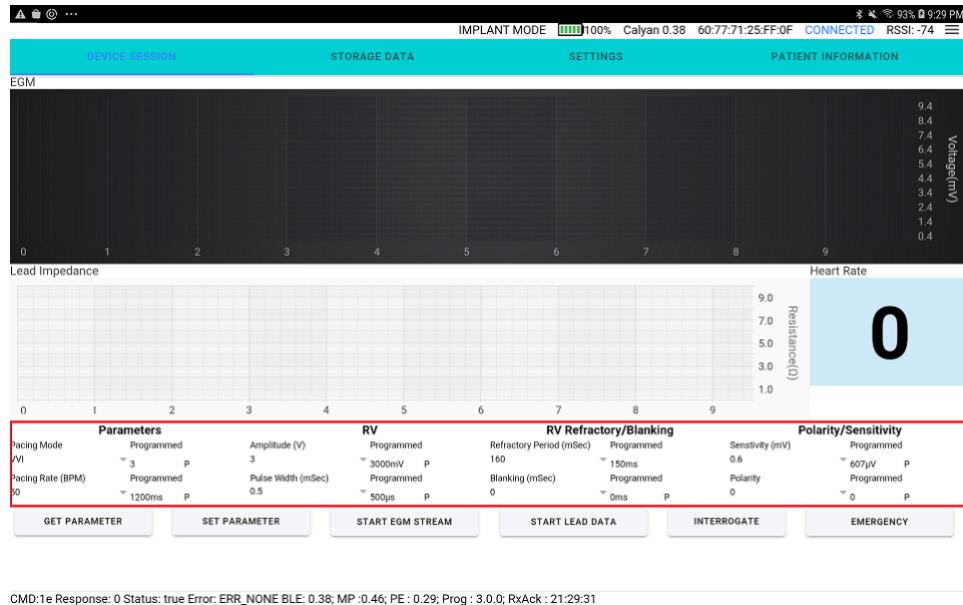

Figure 7: Device Session
1. On Successful interrogation the Device settings will be displayed on the programmers “DEVICE SESSION” screen (Figure 7).